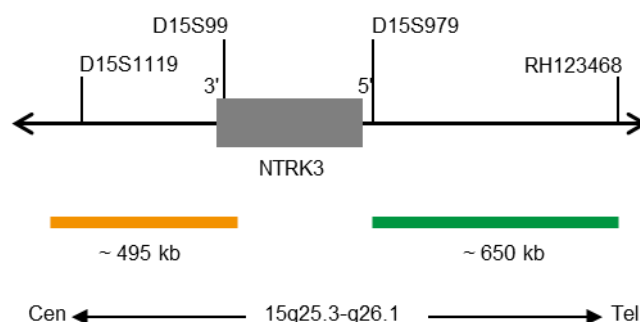

Fig. 1: SPEC NTRK3 Probe map (not to scale)
- ZyGreen (excitation 503 nm/emission 528 nm) labeled polynucleotides (~10.0 ng/μl), which target sequences mapping in 15q25.3-q26.1* (chr15:88,825,346-89,475,889) distal to the NTRK3 breakpoint region (see Fig. 1).
- ZyOrange (excitation 547 nm/emission 572 nm) labeled polynucleotides (~4.5 ng/μl), which target sequences mapping in 15q25.3* (chr15:87,976,717-88,471,002) proximal to the NTRK3 breakpoint region (see Fig. 1).